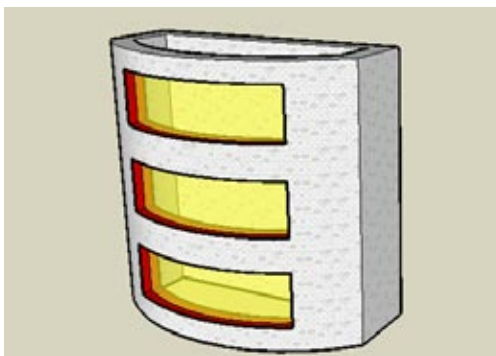

Figure 3-44
13. Erase the original glass in the back, and you're finished (Figure 3-44).